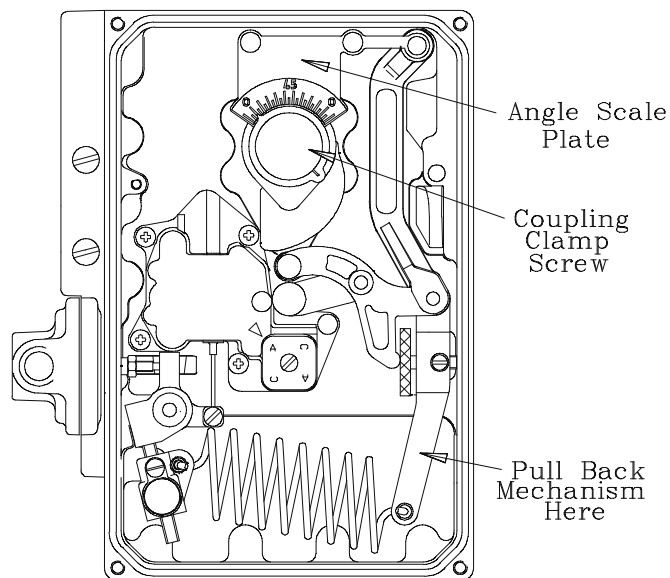

Figure 2. View of inside of Positioner Box Showing Parts for Removal During Installation.
2.1.2 Remove positioner cover and undo the two M4 screws retaining the red angle scale plate and remove coupling as shown in Figure 2.
2.1.4 Observe the direction that the cam moves with a rising signal and, if correct, place the coupling on the actuator square with one hand whilst pulling back the mechanism with the other (refer to Figure 2). If the direction is not as required then refer to section 4.1. If the actuator has been correctly positioned near mid-stroke, the cam follower will contact the cam at approximately half way. Ensure that the coupling is pushed fully onto the actuator square and tighten the central fixing screw which will have the effect of centralising the cam follower on the cam. Refit the angle scale plate.